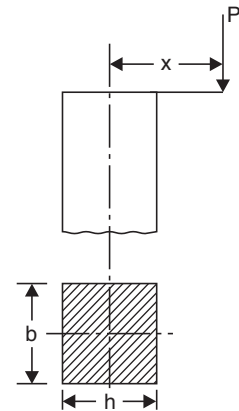

FIGURE 10.6
35. Figure 10.6 shows a member subjected to a force P which is parallel to the axis and at a distance x from the axis. The member is rectangular in section. The resultant stress at any point is equal to